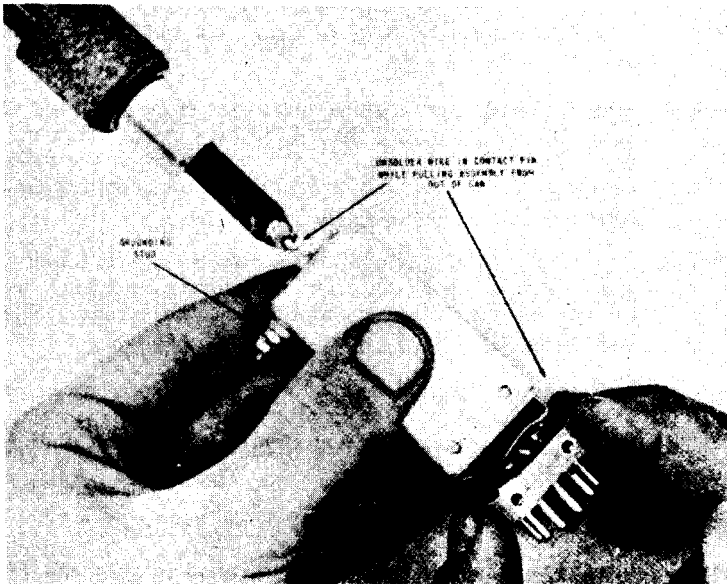

Figure 7-7. Trigger Amplifier Z-101, Disassembly
- Step 5. Apply hot soldering iron to contact pin while pulling assembly from out of the can (fig. 7-7).